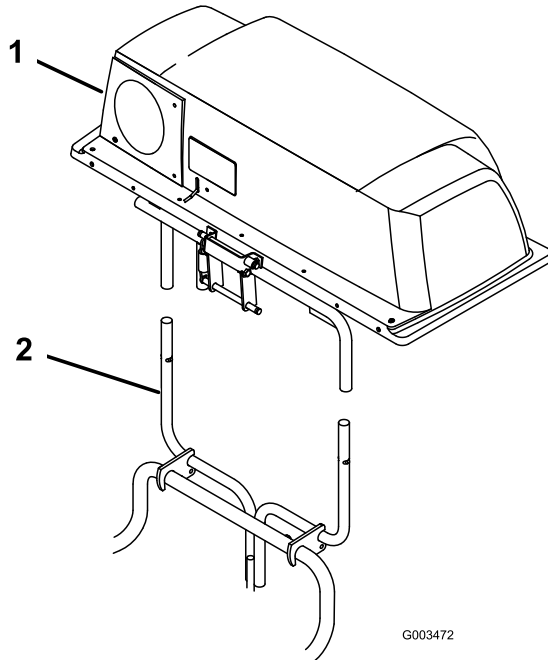

Figure 16
1. Carefully lift the bagger top and slide it onto the quick attach bracket (Figure 16). The bagger top is easier to install if two people work together.